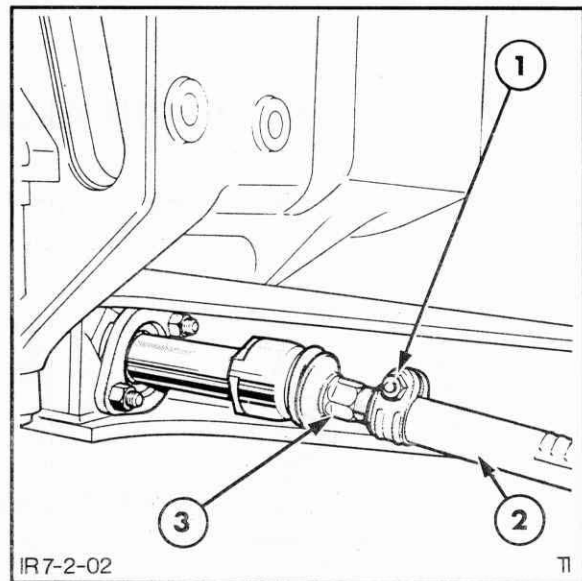

Figure 7-51
1. Loosen the clamp bolt on each track control rod, Figure 7-51.